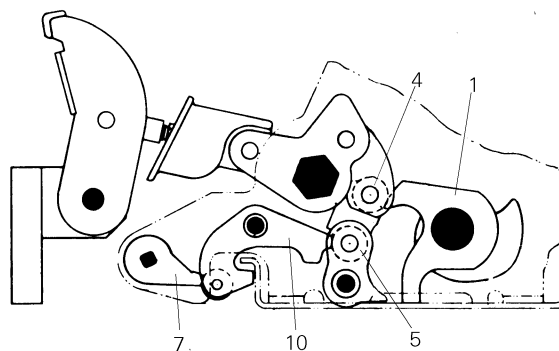

Figure 5-8. Breaker mechanism in the CLOSED position.
Figures 5-8, 5-9, and 5-10 show the mechanism components in the CLOSED, TRIPPED, and RESET conditions, respectively. Numbers in parentheses refer to the indicated items in the figures listed in Table 5-1. The closing spring is in the charged position for all of these details.
**Closed Position** – The movable contacts are pushed against the stationary contacts by the toggle linkage, as illustrated in Figure 5-8. The toggle linkage is held in position through the engagement of its cam roller (4), with the prop (1), the secondary latch/roller (5), the secondary latch (10), and the trip latch (7).
The breaker closes when the closing spring discharges and rotates the cam (2) against the cam roller (4). The toggle linkage is fully extended, pivoting the secondary latch (10) from the front frame and engaging it with the trip latch (7) and cam roller (4), as shown in Figure 5-8.
Table 5-1. Key to numbered parts in Figures 5-8, 5-9, and 5-10.